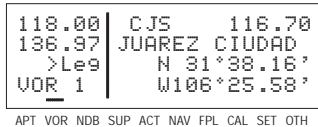

Figure 3-74
1. With the cursor off, use the right knobs to select the VOR 1 page (figure 3-74). The VOR waypoint in view is not important.